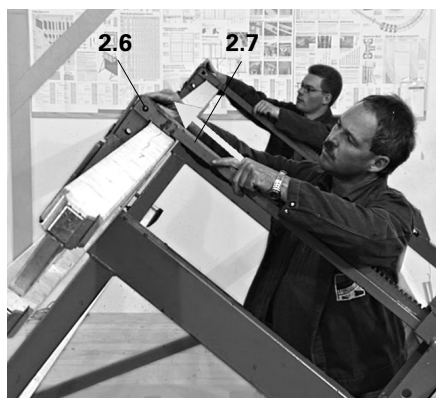

Fig. A1.22
10. Remove wedges from carriage. Extend rack (2.7) and attach to bracket with bolts Ø 16 x 65/86 and cotter pins (2.6). (Fig. A1.22)